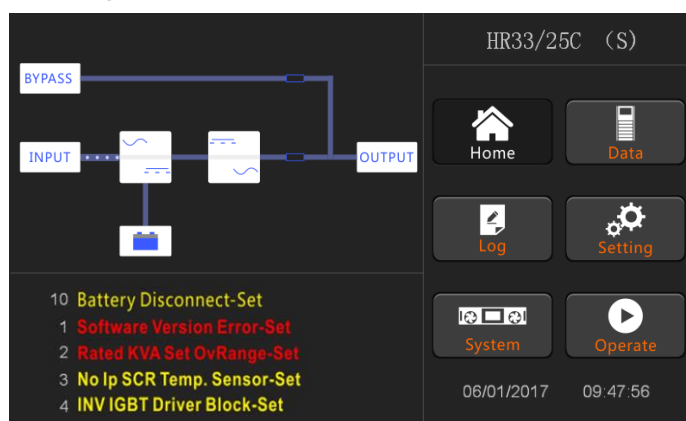

Fig.5-1 Interface of rectifier starting
4. The LCD home interface shows that the system rectifier is working and the indicator flashes, as shown in Figure 5.1.